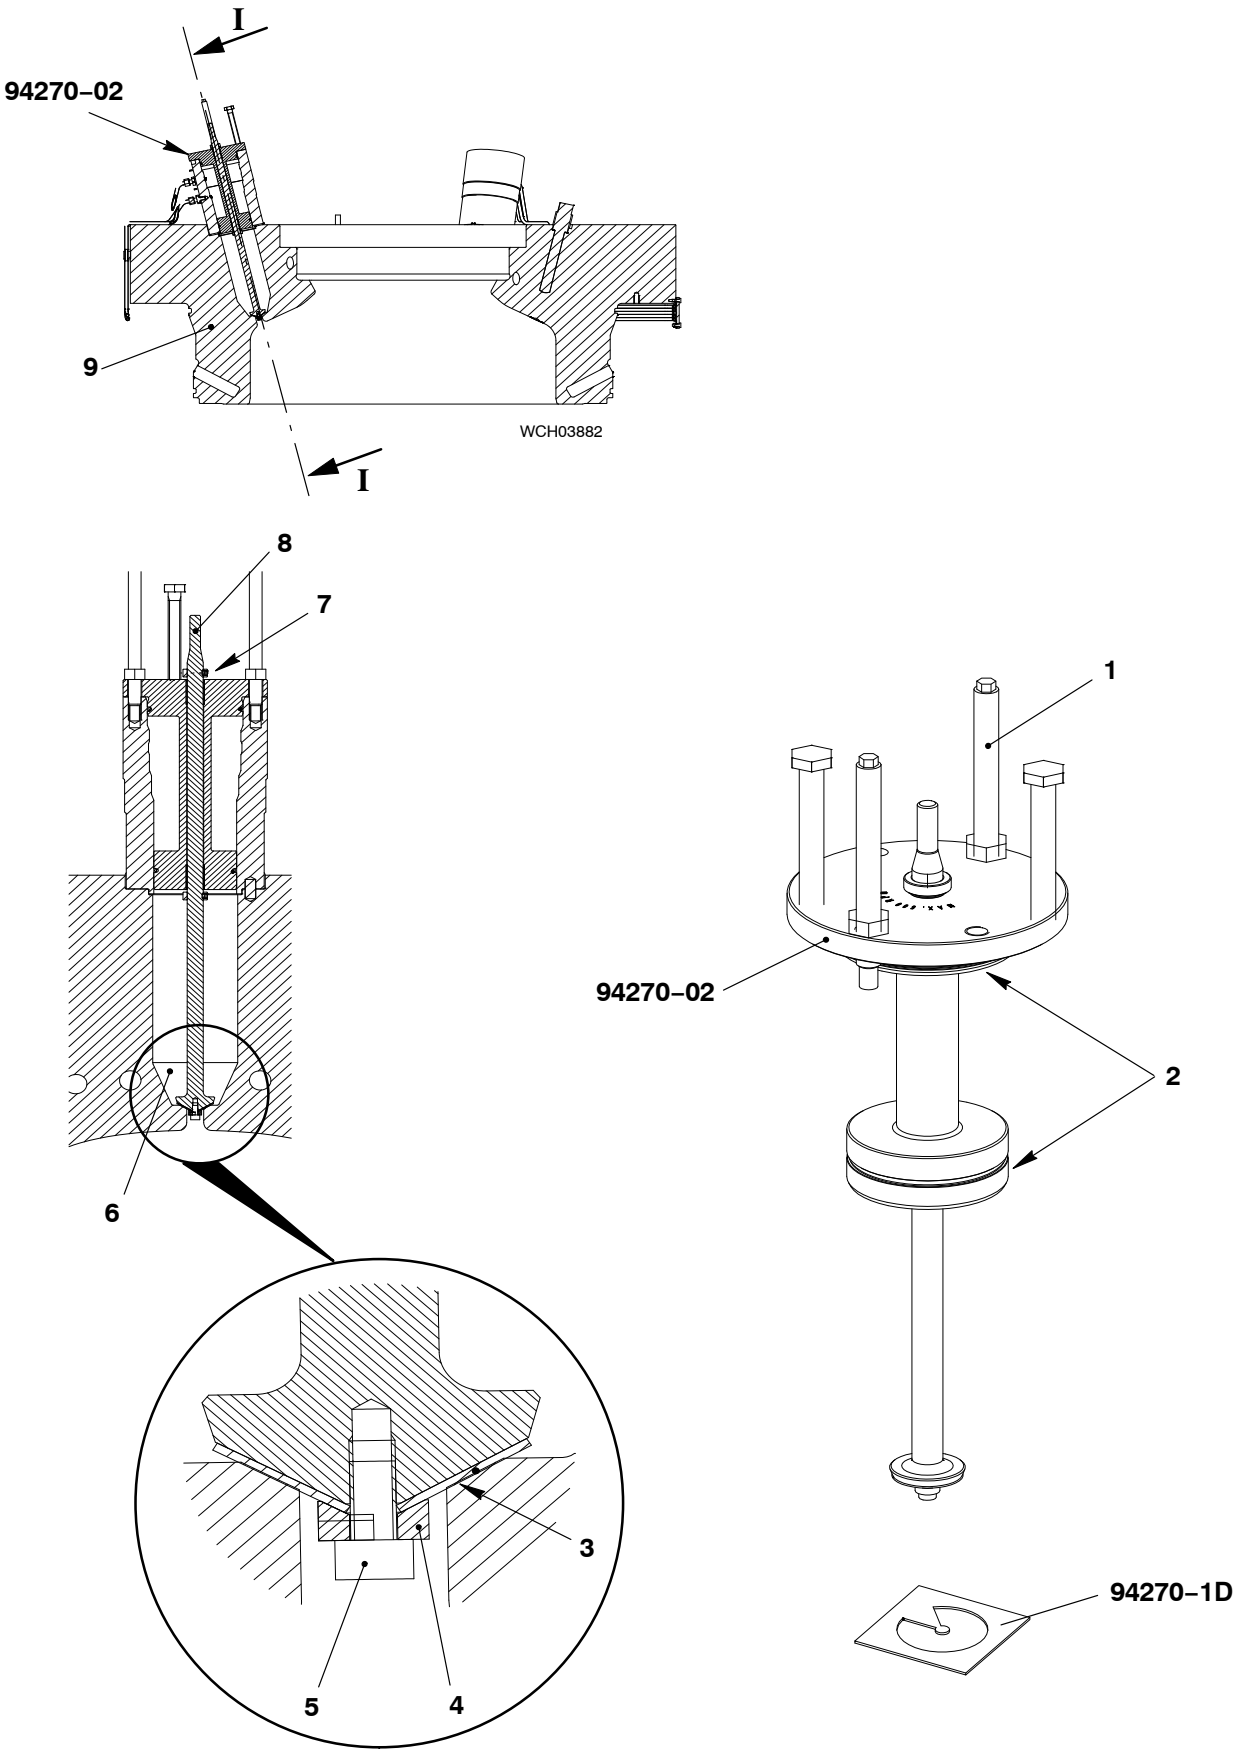

Fig. 1
- 1) Make sure that the stop sleeve (2) is attached to the spindle (1) of the grinding device (94270-02, Fig. 1).
- 2) Make sure that the two O-rings (7) are serviceable.
- 6) Cut out accurately the shape (4).
- 7) Attach the shape (4) to the device (94270-02) with the clamp (6) and the Allen screw (5).
- 8) Torque the Allen screw (5) to 8.0 Nm.
- 9) Apply a thin layer of oil to the O-rings (7).
- 11) Attach an electric drill to the spindle (1).